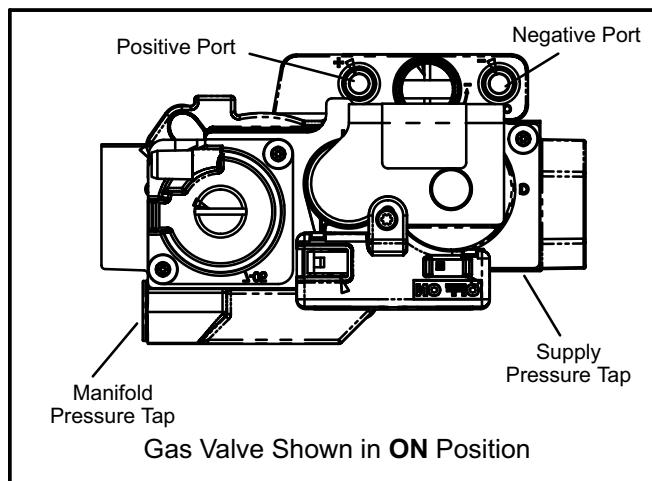

FIGURE 3
- 2 - Remove the threaded plug from the outlet side of the gas valve and install a field-provided barbed fitting. Connect measuring device positive "+" to barbed fitting to measure manifold pressure. See figure 3 for manifold location.